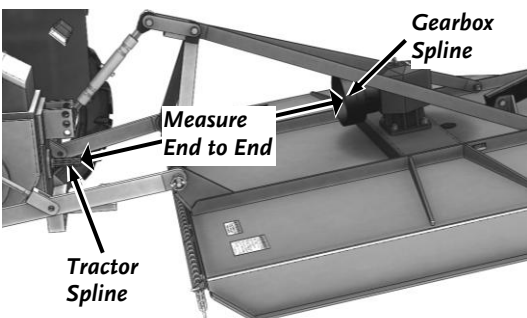

Figure 13: Raised Position
3. Raise the Mower up as far as it will go (Figure 13). Measure from the end of the Tractor Spline Shaft to the end of the Mower Gearbox Shaft and record this dimension in the "FULLY RAISED" row of the table above.